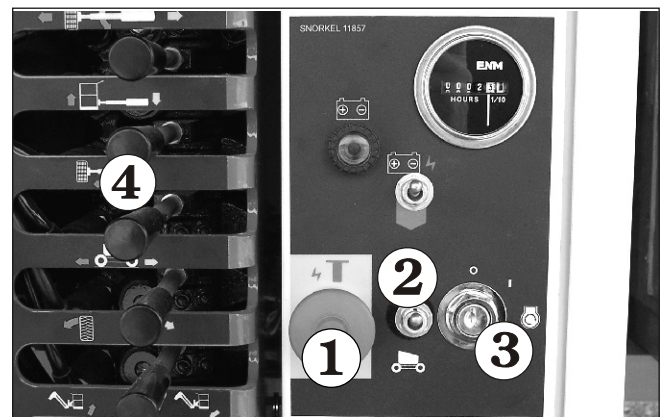

Figure 7.1—Ground Controls
Use the following procedure to operate boom or platform functions using the lower controls (refer to Figure 7.1).
1. At the lower controls, insert the key into the master switch^② (refer to Figure 7.1) and turn the key on.
2. Switch to platform operation^③ (refer to Figure 7.1).